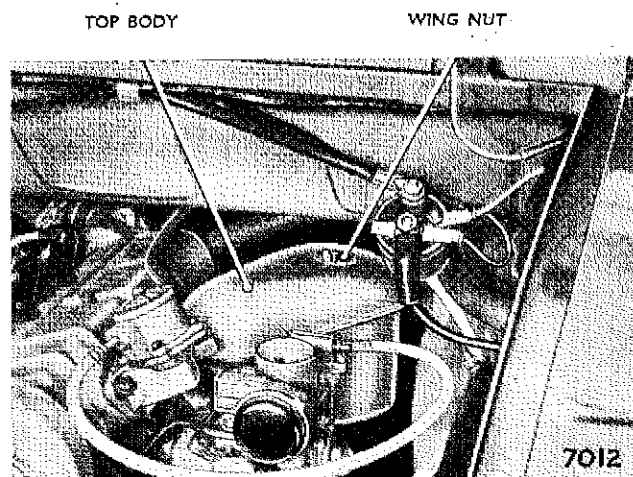

Fig. 21. Position for removing and replacing air cleaner upper body
3. Lift cleaner upper body off the carburettor and turn it to the position shown in Fig. 21. This will give easy access to the wing nut securing the upper body. Remove wing nut and upper body.
After placing the lower body in the position shown in Fig. 21 replace the upper body and wing nut which should not be fully tightened.